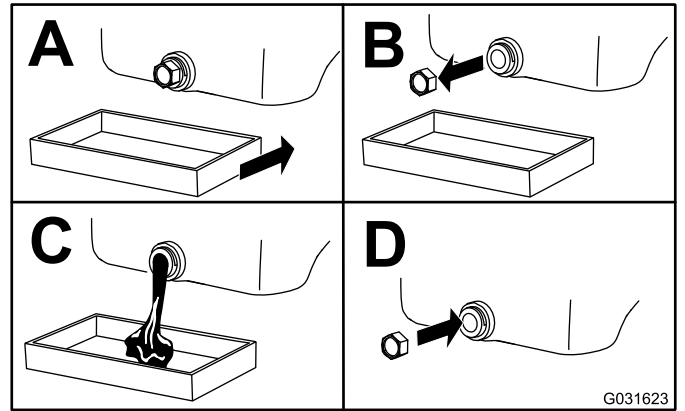

Figure 68
5. Change the engine oil as shown in Figure 68.